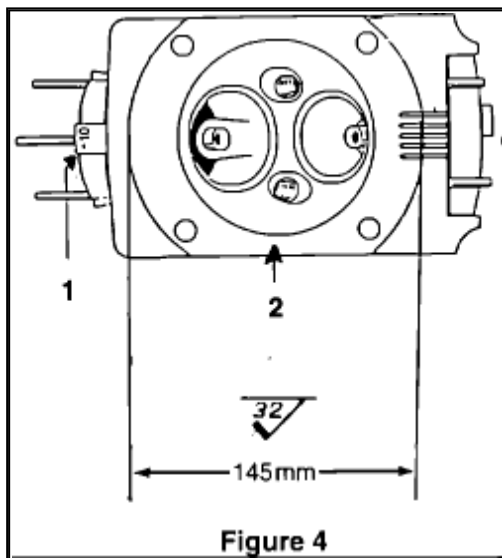

Figure 4
5. Machine $0.10 \pm .02$ mm from inner surface (arrow 2 in Figure 4). The diameter of the machined surface must be 145 mm (Figure 4). A surface quality standard of 32 micro-inches must be maintained. Machining should be done with a cutting tool at right angle to the work. The cylinder head surface may only be machined a maximum of 0.20 mm.
6. Mark cylinder head with -10 or -20 appropriately on intake flange (arrow in Figure 4).